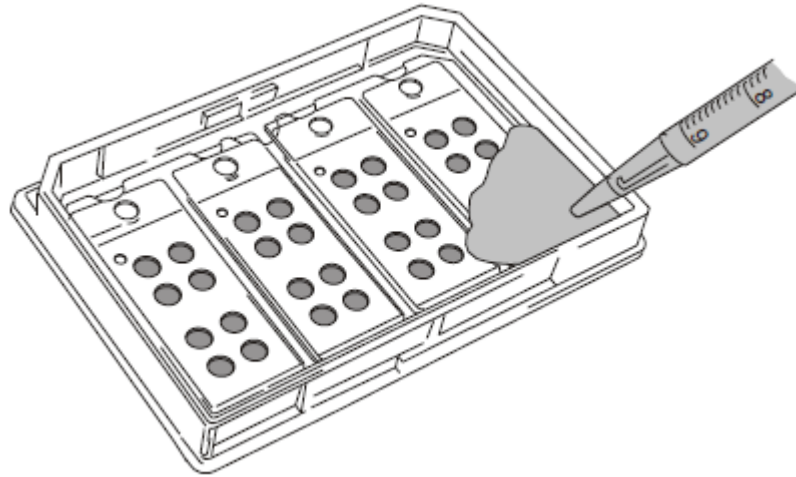

Figure 3
3. After cells attach, flood the tray with 15ml of culture medium as shown in Figure 3. Alternately, plates and inserts may be flooded with a suspension of cells in medium (15ml) and incubated to allow cells to attach to coverslips.